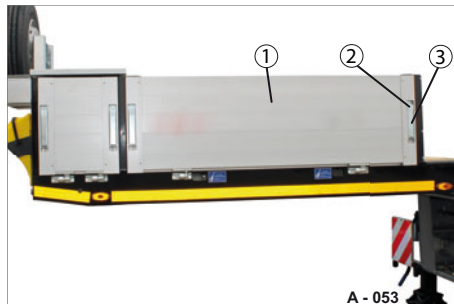

Fig. 47 Platform gate closed
- ▶ Press the safeguard (Fig. 47/2) on the hand lever lock (Fig. 47/3).
- ▶ Hold the platform gate (Fig. 47/1) firmly with one hand and unlock the second hand lever lock.